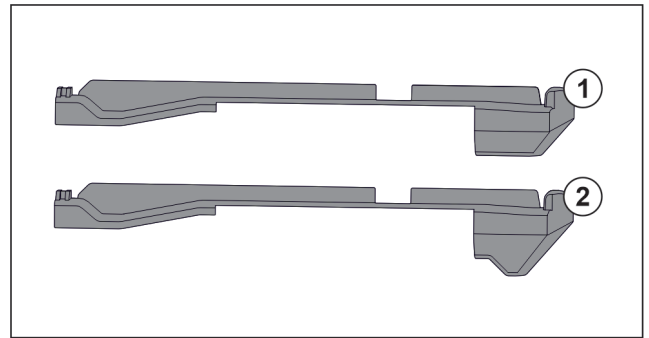

Fig. 119 Comparing attachments
There are two different attachments in the appliance. The attachment above the lowest drawer Fig. 119 (2) has a three-cornered edge. All other attachments Fig. 119 (1) have a straight edge.
- ▶ Fit attachment Fig. 119 (2) with the three-cornered edge above the lowest drawer.
- ▶ Fit attachment Fig. 119 (1) with straight edge in all other positions.